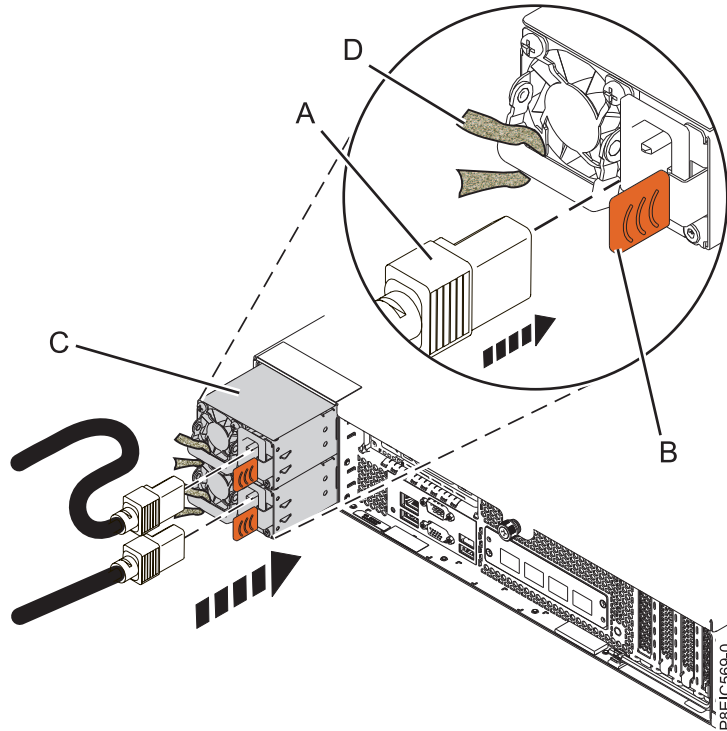

Figure 52. Replacing a power supply in the system
1. Align the power supply (C) with the bay and slide the power supply into the system until the latch (B) locks in place. See Figure 52 on page 75.
- a. Connect the power cord to the power supply, as shown in Figure 52.